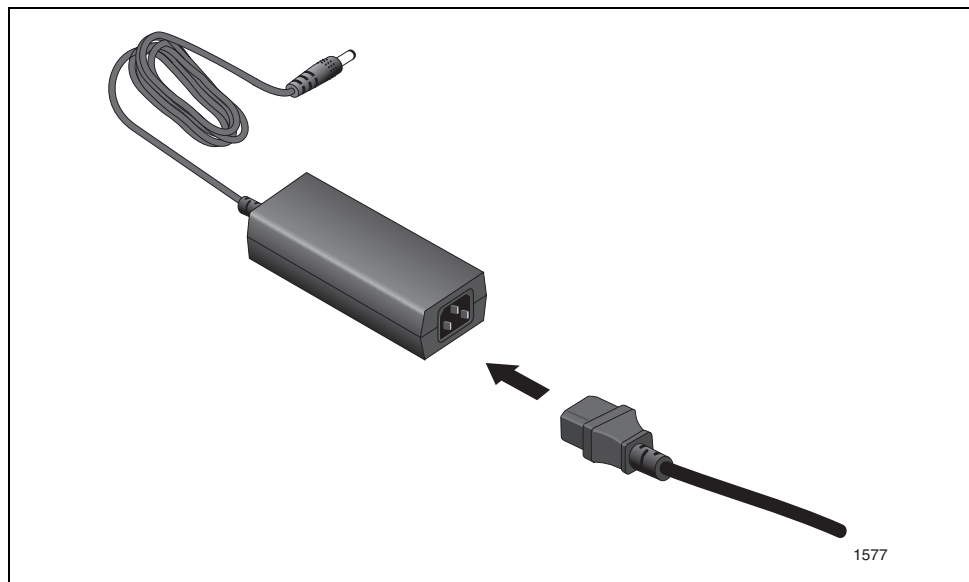

Figure 14. Connecting the Power Adapter and Power Cord
1. Connect the power cord to the power adapter, as shown in Figure 14.